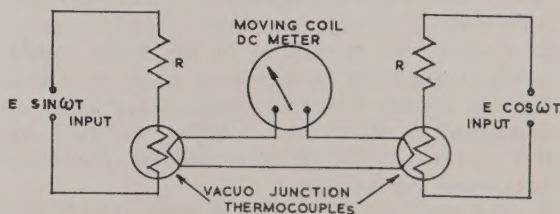

FIG 3
3. At various points throughout the oscillator, there exist voltage waveforms at 0° , 90° , 180° and 270° . These are used for the reference and signal outputs. In addition, the 0° and 90° signals are used in the level indicating system. These two voltages, $E \sin \omega t$ and $E \cos \omega t$ are fed into two thermocouples through suitable series resistors (Fig. 3). The voltage outputs are connected in series addition. As the voltage output is approximately proportional to the square of the input current, the meter deflection is proportional to $E^2 \sin^2 \omega t + E^2 \cos^2 \omega t$, i.e. E^2 . The meter indication is thus independent of frequency and, in the ideal case, is steady down to the lowest frequencies.